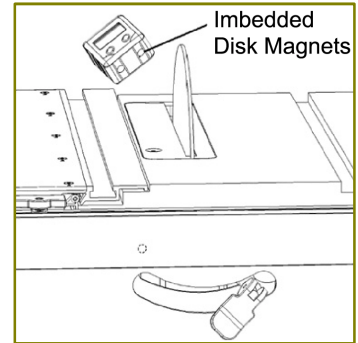
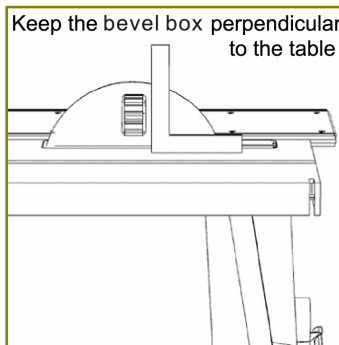

Figure 2
Figure 3
- 3 Attach the gauge to the saw blade, jointer fence or workpiece to be measured or set using the embedded magnets in the base (see figure 2). The gauge should always be kept perpendicular to the table for all measurements (see figure 3).